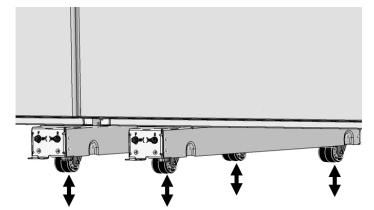

Fig. 8
- c. Use a flat head screw driver or a $\frac{3}{8}$ " socket wrench to adjust the front bolts of the Leveler Assemblies (Fig. 8). Raise or lower the front and back wheels as needed until the unit rests properly in the cabinet space.